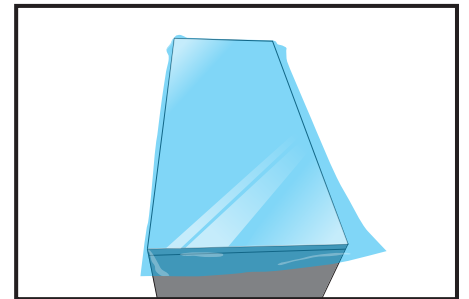

Figure 03
- › Once the application to the horizontal surface is finished (FIG. 03), proceed with the cuts to wrap the table edges.